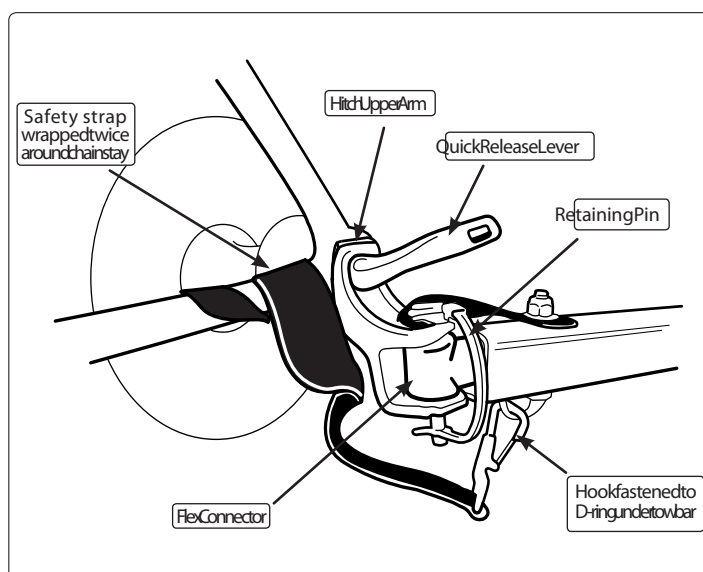

FIGURE 8
7. Wrap safety strap twice around inside of chain stay. Fasten hook to D-ring on underside of tow bar end. FIGURE 8